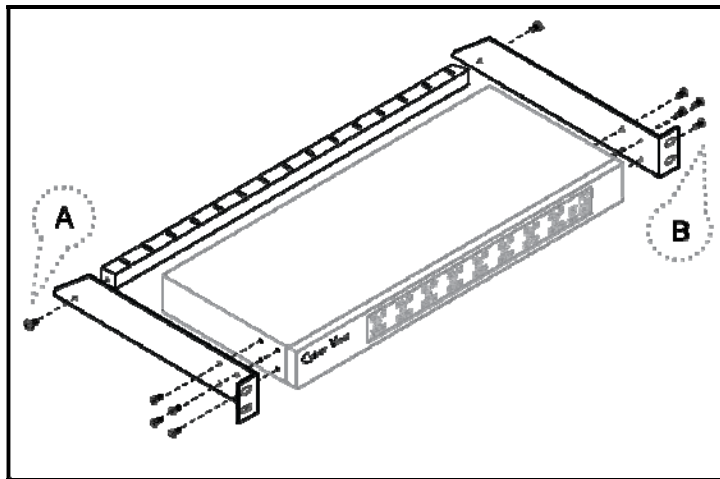

Figure 1. Installing the bracket to the KVM.
- Install each bracket using screws provided shown in **Figure 1**.